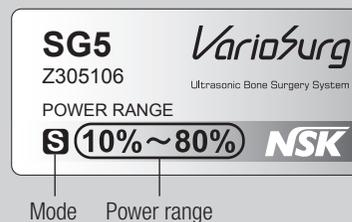

Fig. 21
- Use the Tip ONLY in the Mode, and within the Power Range, as displayed on the Tip case label. If used outside the prescribed power range the Tip may break, and the tooth surface or soft tissue may be damaged. (Fig. 21)